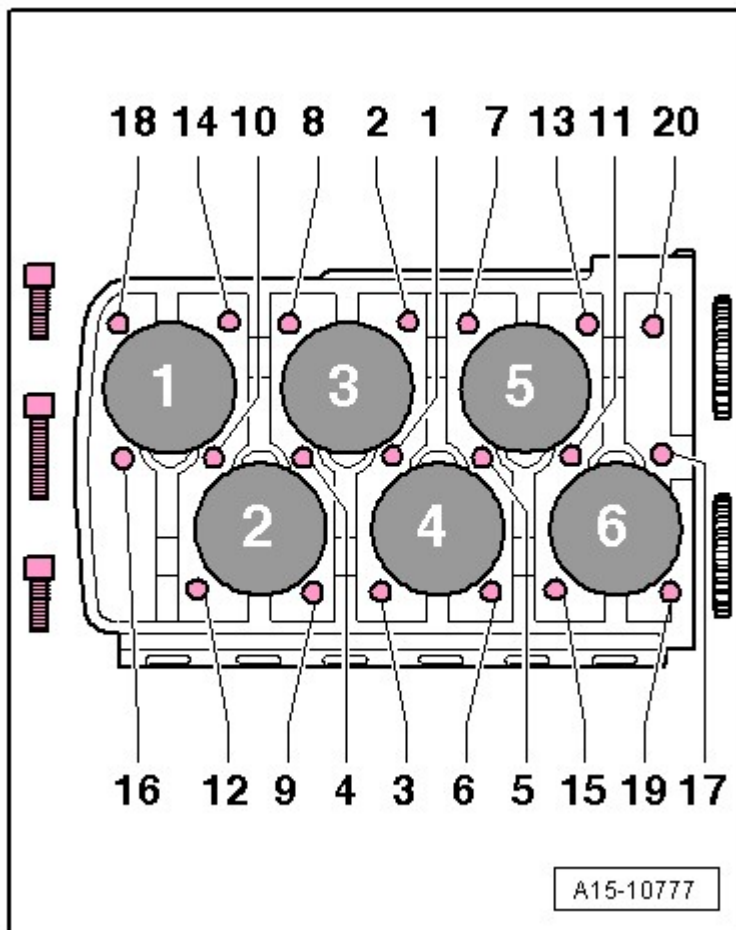

Fig. 4: Cylinder Head - Tightening Specifications And Tightening Sequence
- Observe sequence for tightening, refer to **Fig. 4**